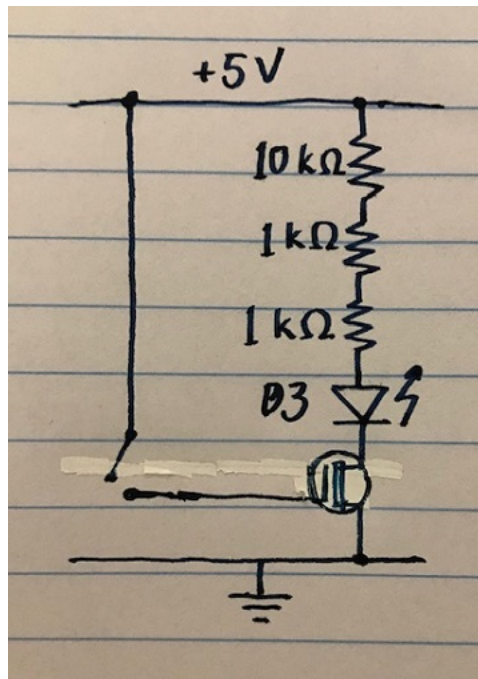

Figure 16: Updated circuit schematic for a MOSFET-controlled LED
- The modified circuit schematic and setup on the breadboard are shown in Figures 16 and 17